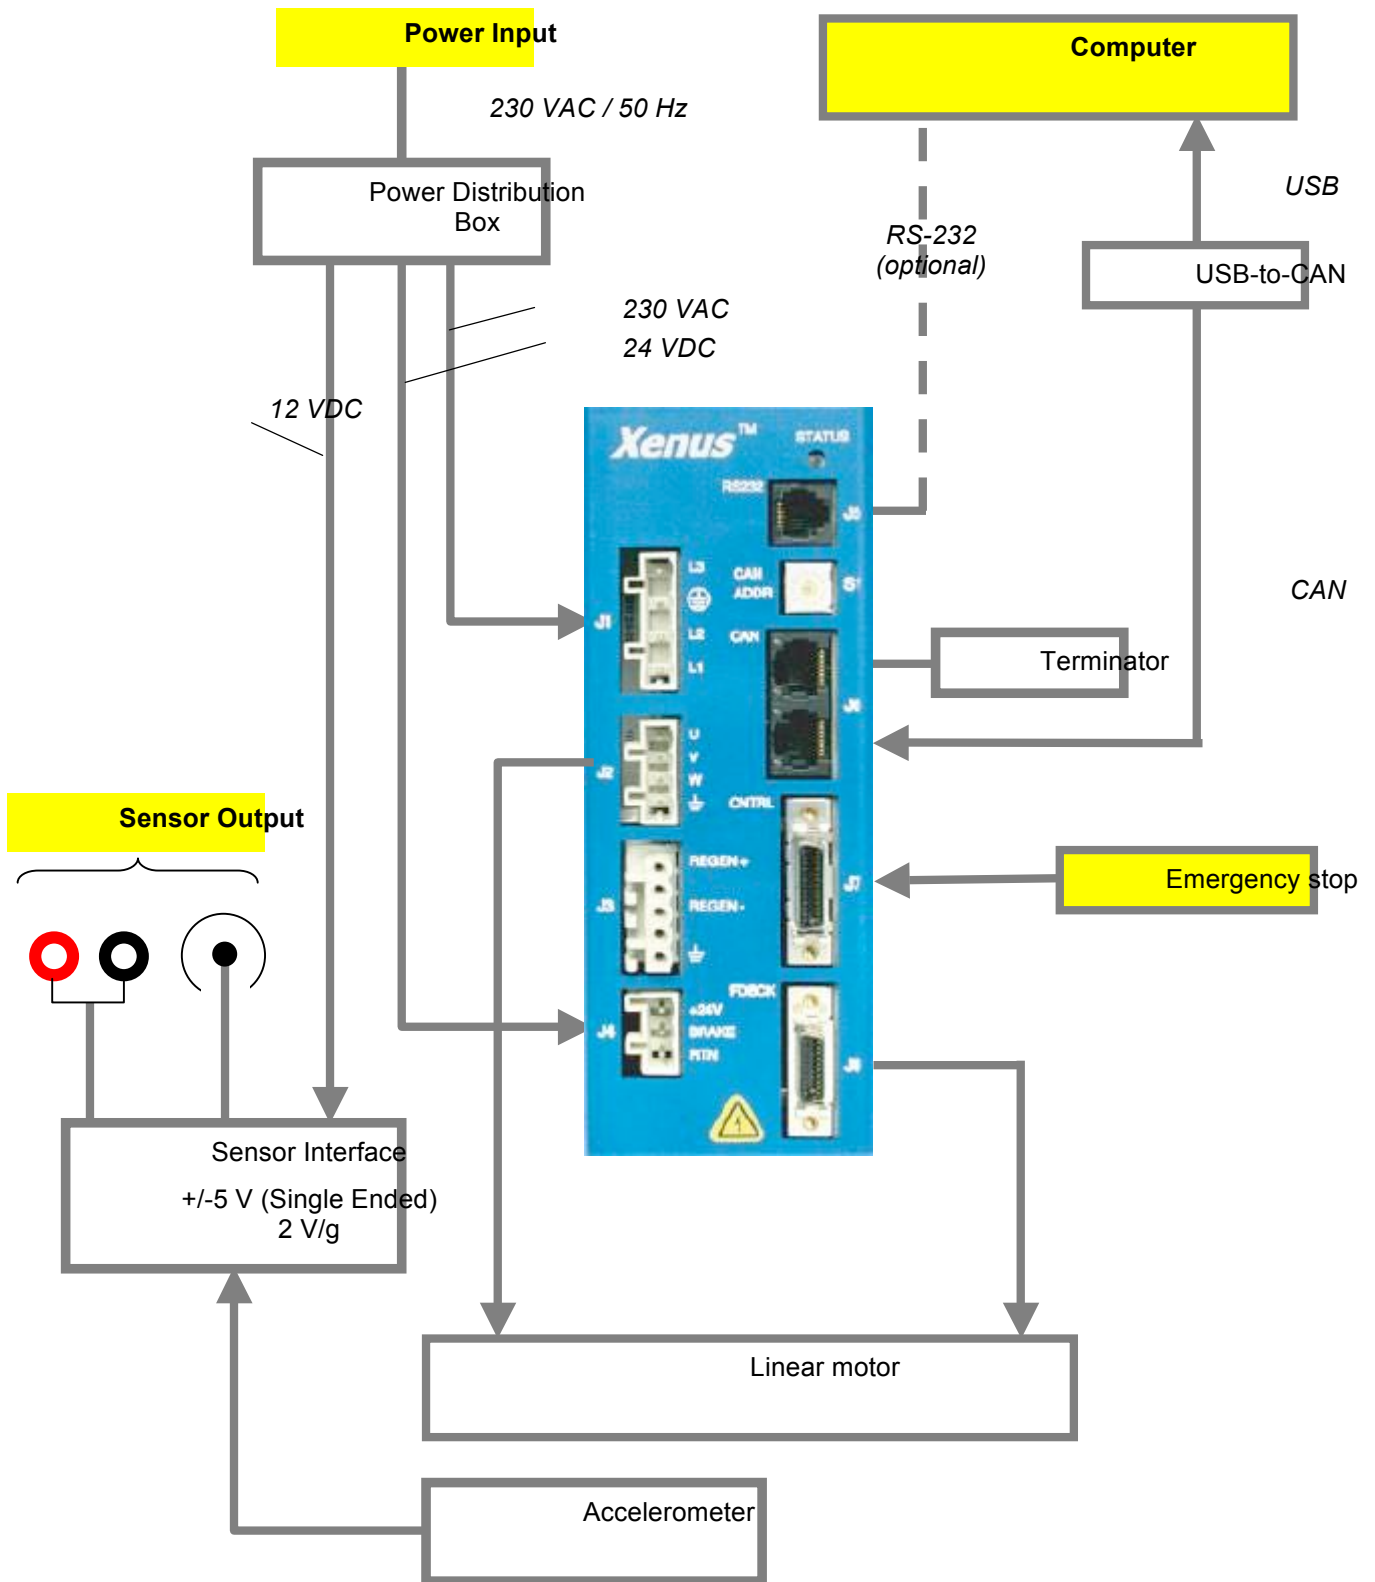

Figure 1. Cabling overview
02.08.2013 V7	Correction of Figure 1